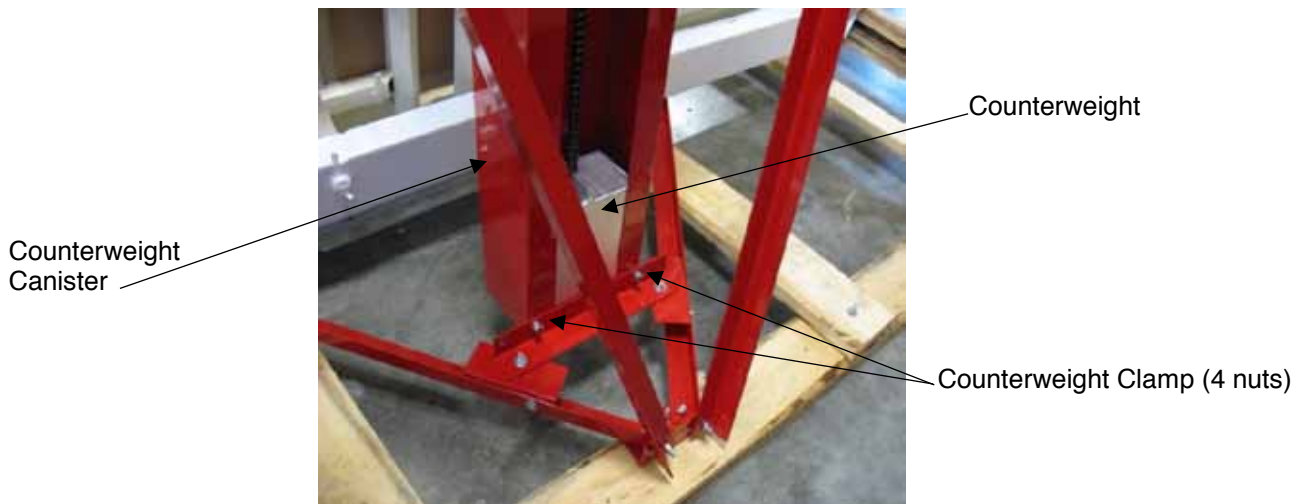

Figure 11: Counterweight assembly
1. Remove two nuts (four total) on each side of Counterweight clamp (Fig. 11).